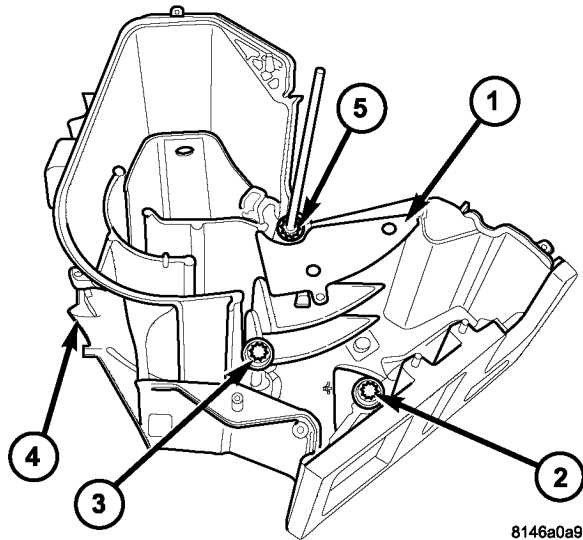

Fig. 25 Air Doors and Vane - Passenger Side
(13) Remove the screw that secures the passenger side air vane to the passenger side of the air distribution housing and remove the vane (Fig. 25).